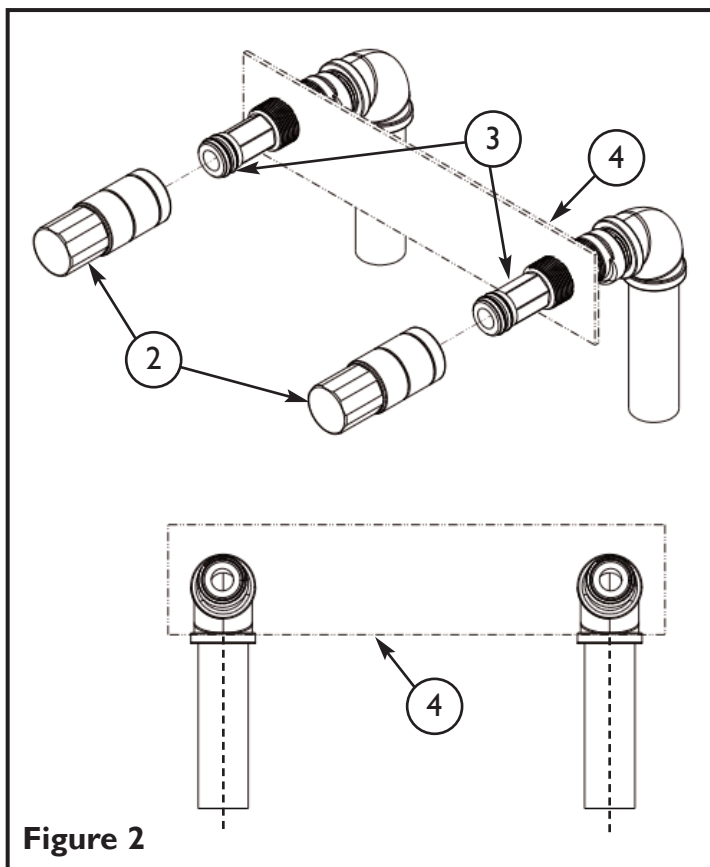

Figure 2
2. Remove the TEST PLUGS (2) and adjust the eccentric NIPPLES (3) so they are leveled, mirrored to one another, by using the provided template (4). See **Figure 2**.